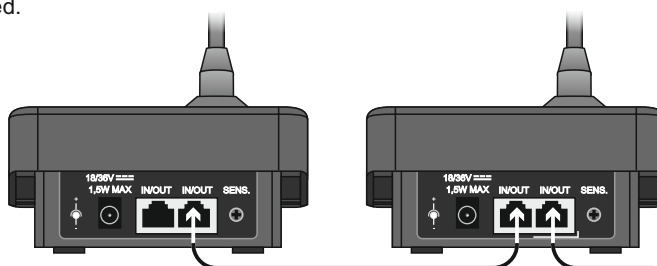

Fig. 2.1.1
The **MBT 1106** and **MBT 1112** stations are connected to one another in cascade formation using the rear-panel **IN/OUT** sockets (9), as illustrated in Fig. 2.1.1. It is pointed out that the two IN/OUT sockets can be used either as inputs or as outputs as required. For the maximum number of stations that can be used, refer to the manual of the control unit of the system in which the bases are used.